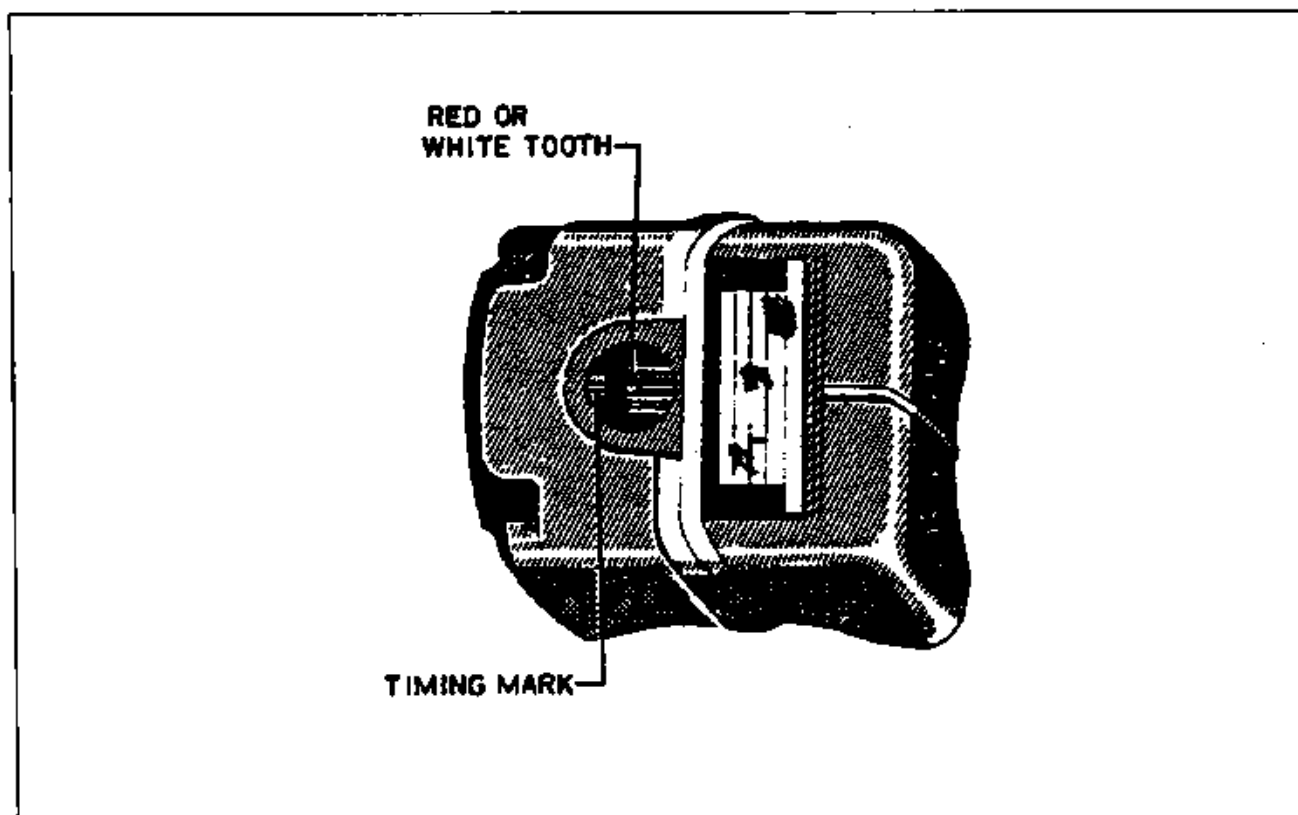

Figure 8A -1. Magneto Timing Marks
- Rotate coupling from neutral in the direction of rotation 10 degrees. Appearing through timing hole, when the white or red tooth aligns with the white line of the distributor block the magneto is set at "E" gap. (Refer to Figure 8A-1.)